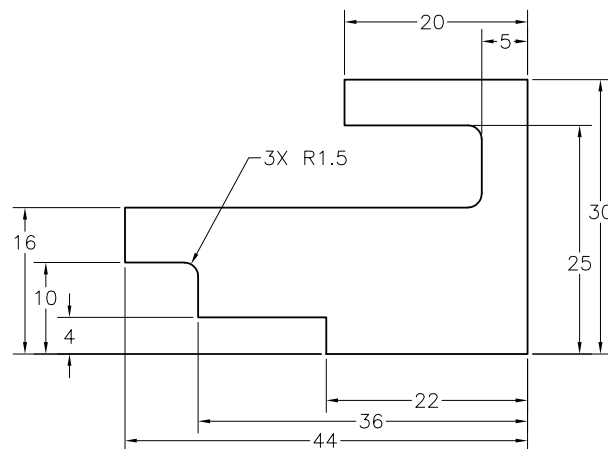
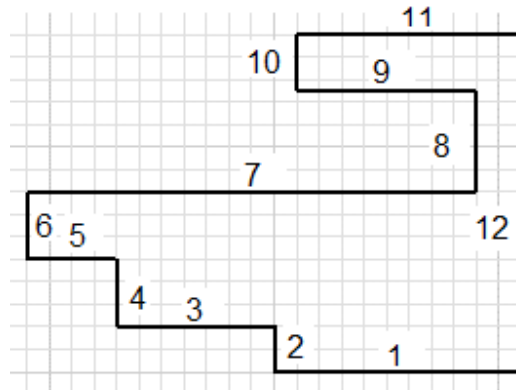

Figure 3-53 Sketch for Tutorial 2
Figure 3-54 Lines numbered in the sketch
In this tutorial, you will draw the sketch shown in Figure 3-53. This sketch is the same as the one drawn in Tutorial 4 of Chapter 2. After drawing it, you will apply the required constraints and dimensions to fully constrain it. **(Expected time: 30 min)**
- b. Invoke the Sketching environment and draw the initial sketch by using the **Line** tool, refer to Figure 3-54.
1. Draw the initial sketch, as shown in Figure 3-54, using the **Line** tool. The lines in the sketch are numbered for your reference.
The dimensions shown in Figure 3-53 are linear dimensions. As the sketch is for a revolved feature, you need to add linear diameter dimensions to it. It is recommended that you first apply all dimensions and then add fillets to the sketch. This is because the size of a sketch is generally changed after dimensioning. Before adding dimensions to a revolved section, it is important to determine which line segment of the sketch will act as the axis for revolving the sketch. If you refer to Figure 3-54, you will notice that line 1 acts as the axis to revolve the sketch for the model. Therefore, while applying linear diameter dimensions, line 1 should be selected first.
Figure 3-53 shows the value to be specified as 4 because the linear diameter dimensions are placed twice the original length.